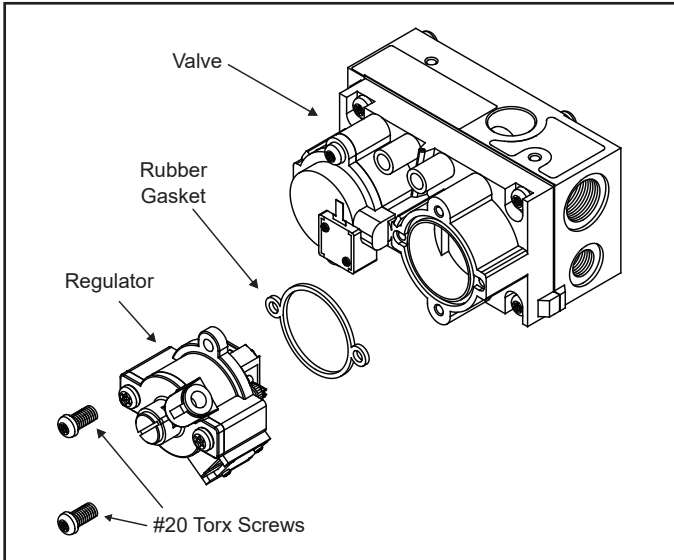

Figure 4
1. Locate the gas valve. Using a #20 tamper-proof Torx screwdriver, remove the regulator and rubber gasket on face of valve. See Figure 4. Discard both the regulator and rubber gasket.
2. Install the new regulator along with the new rubber gasket included in the conversion kit. See Figure 4.